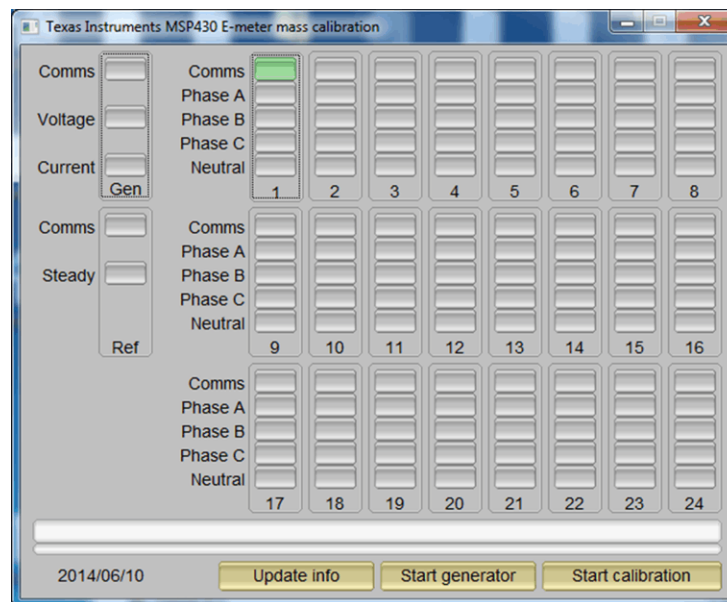

Figure 27. GUI Startup Window
- Run `calibrator.exe`, which is located in the GUI folder. If the COM port in `calibration-config.xml` was changed in the previous step to the com port connected to the EVM, the GUI opens (see Figure 27). If the GUI connects properly to the EVM, the top left button is green. If there are problems with connections or if the code is not configured correctly, the button is red. Click the green button to view the results.